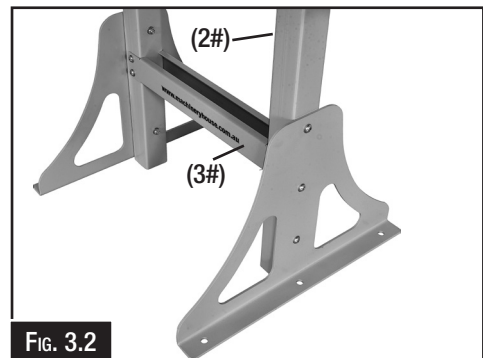

FIG. 3.2
3. Find the two connecting plates (3#) and attach them to the two upright legs (2#) with M10 x 90 bolts, flat washer, spring washer and nut. (Fig. 3.2)